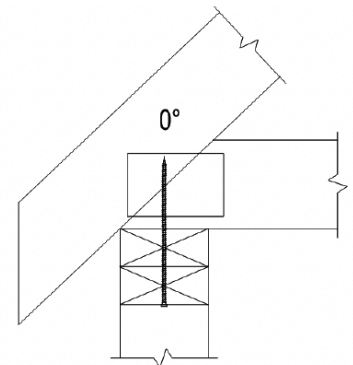
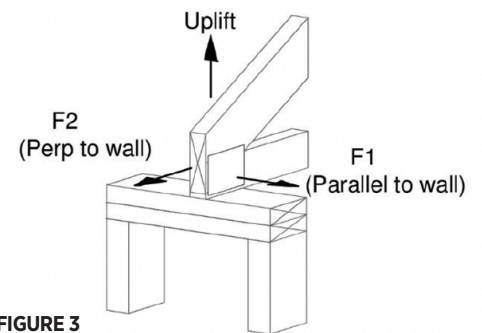

FIGURE 2
FIGURE 3
- b. Screws located between studs may be installed at a 0 degree angle (Figure 2).
Loads parallel to the wall are labeled F1 and loads perpendicular to the wall are labeled F2 (See Figure3).
6. See Figure 2 for load directions. See Figure 3 and Figure 4 installation details
8. Install fastener at an upward angle from the vertical of 20° to 30° (22.5° is optimal) or 0° (See Figure 3 and Figure 4). For installation between 20° and 30°, design values for 22.5° may be used.